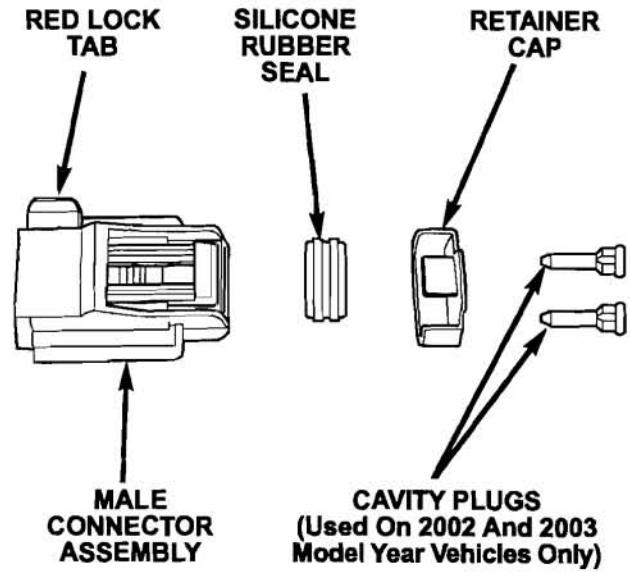

Figure 2
6. Install the connector end seal, retainer cap and cavity plugs into the empty male connector (removed in Step 4) as shown in Figure 2.
7. Install the male connector onto the unused wiring harness connector and engage the red lock tab by sliding the lock tab towards the passenger side of the vehicle (Figure 2).